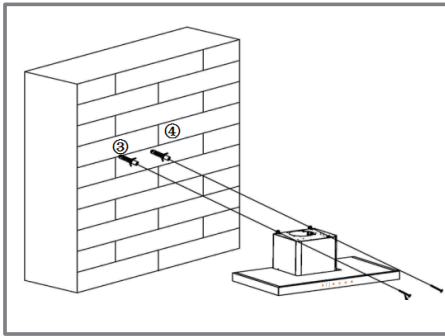
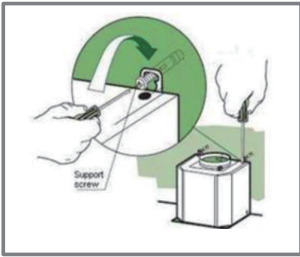
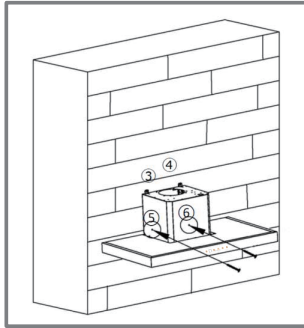

Fig. 8
Fig. 9
Fig. 10
Step 2 (Fig. 8 / Fig. 9 / Fig. 10)
- ▶ Mount the appliance onto the wall and do ensure that it is properly engaged with the mounting screws ③ & ④. (Fig. 8)
- ▶ If there is a need to realign the appliance, adjust the screws on the top of the housing. (Fig. 9)
- ▶ Tighten the screws ③, ④, ⑤, ⑥ firmly after realignment. (Fig. 10)